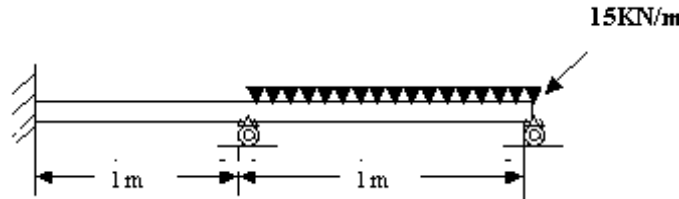

Figure 1:
3. For the beam and load shown in figure 1 determine slope at 2 and 3 and at the mid point of the distributed load.  $E=200\text{GPa}, I=5 \times 10^6 \text{mm}^4$ . [16]